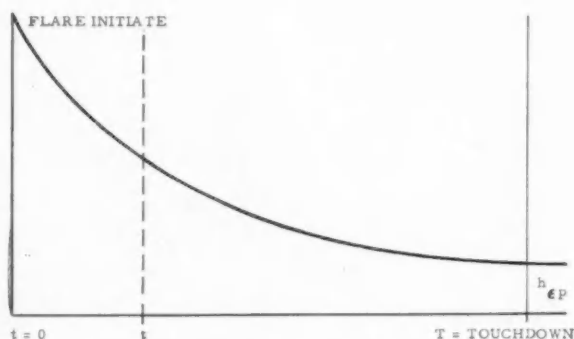
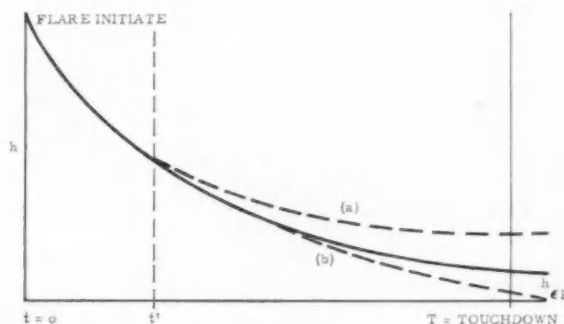

Fig. 5 — Aircraft landing high prediction.
Fig. 6 — Modified flare.
1. At a particular instant of time shortly after flare initiate, the predictor samples the output of the controller. If the sampled control command remains constant until touchdown, the aircraft may land high (Fig. 5). The correction sent to the controller drives the  $\dot{h}_{eT}$  to zero and results in a modified flare (Fig. 6).